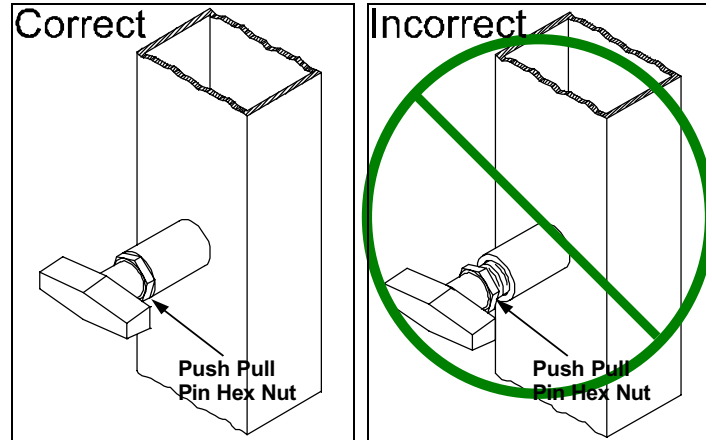

Fig. 64
8. Check that the **Push Pull Pins 1/2 Special (#82)** and the **Push Pull Pin 1/2 (#62)** nuts are fully fastened (See Fig 64). In addition, be sure the springs in the **Push Pull Pin 1/2 (#82, #62)** are operating freely.